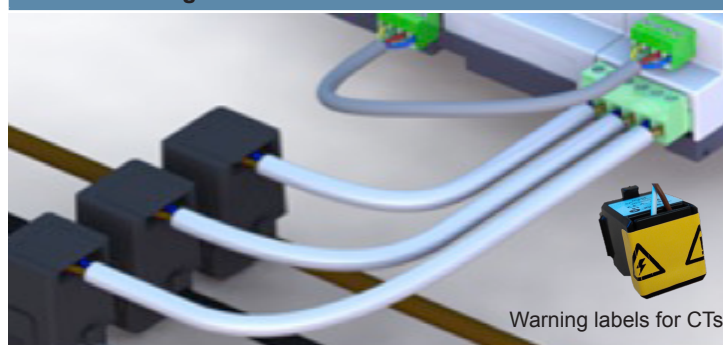

Fig. 2: Installing Current Transformers
- ▶ Clamp a CT onto the conductor for L1 (phase 1). (Fig. 2). Note the polarity of the CT, the arrow on the CT should point towards the load.
- ▶ Fasten the CTs to the conductors with cable ties by using the tabs on the CT (Fig. 2).